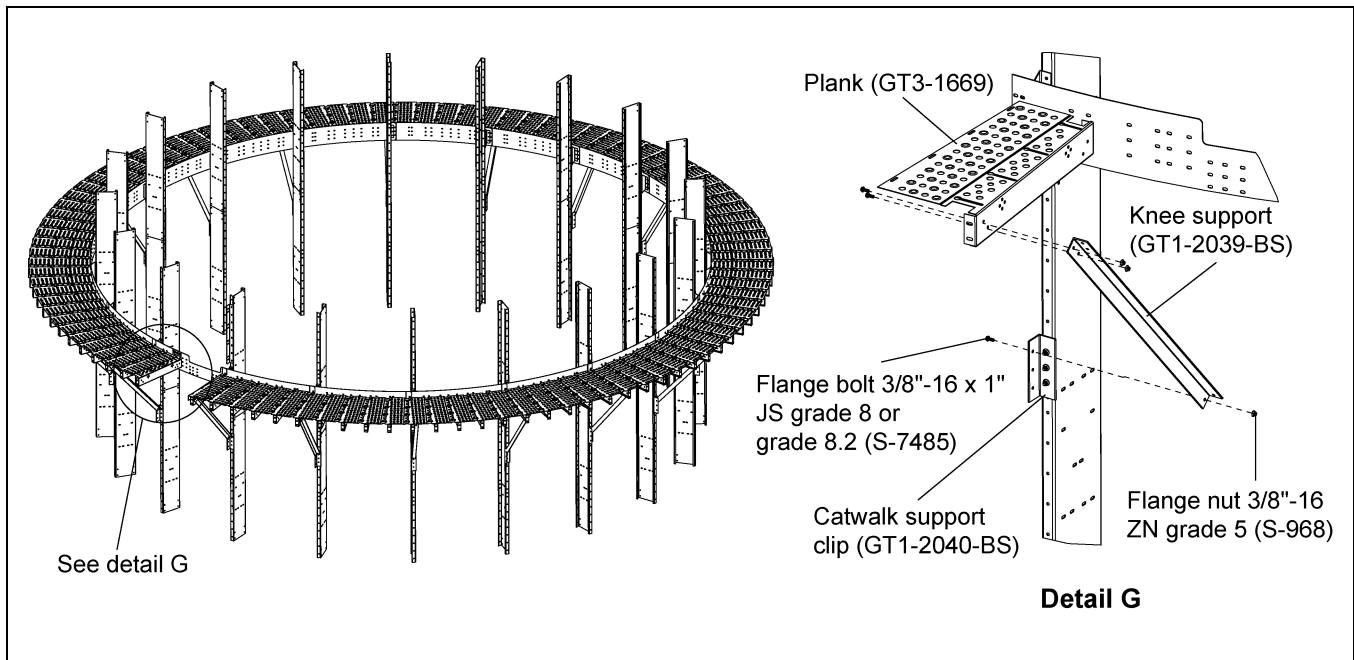
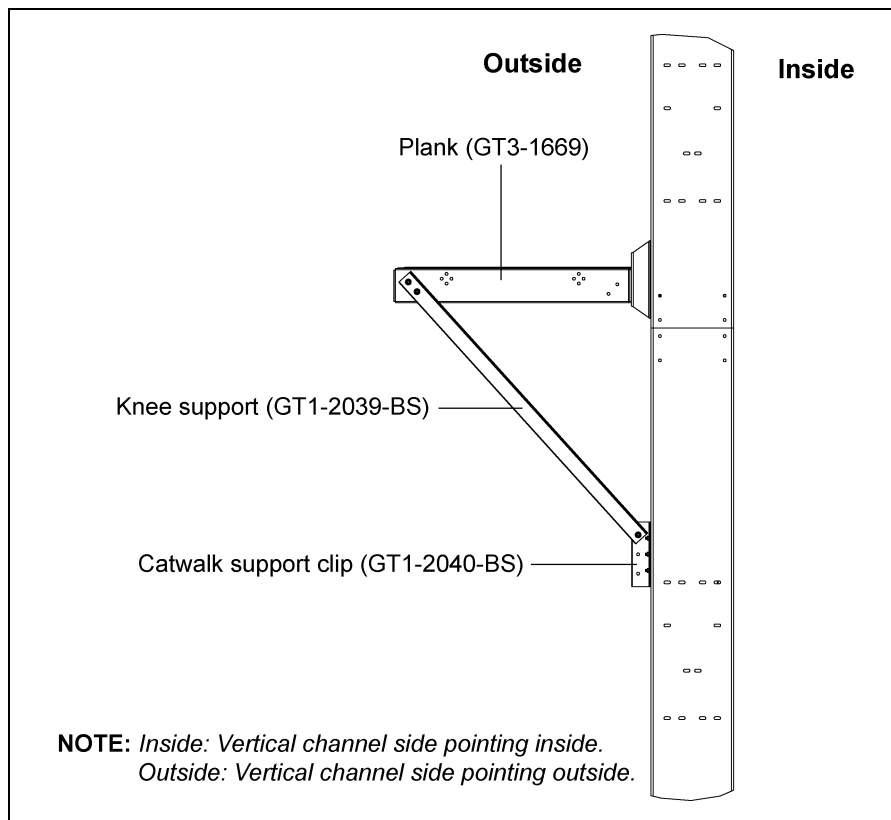

Figure 4P
Figure 4Q
1. Install the knee support (GT1-2039-BS) around the dryer between the catwalk support clips (GT1-2040-BS) and planks (GT3-1669) using 3/8"-16 x 1" JS grade 8 or grade 8.2 bolts (S-7485) and 3/8"-16 ZN grade 5 nuts (S-968). (See Figure 4P and Figure 4Q.)